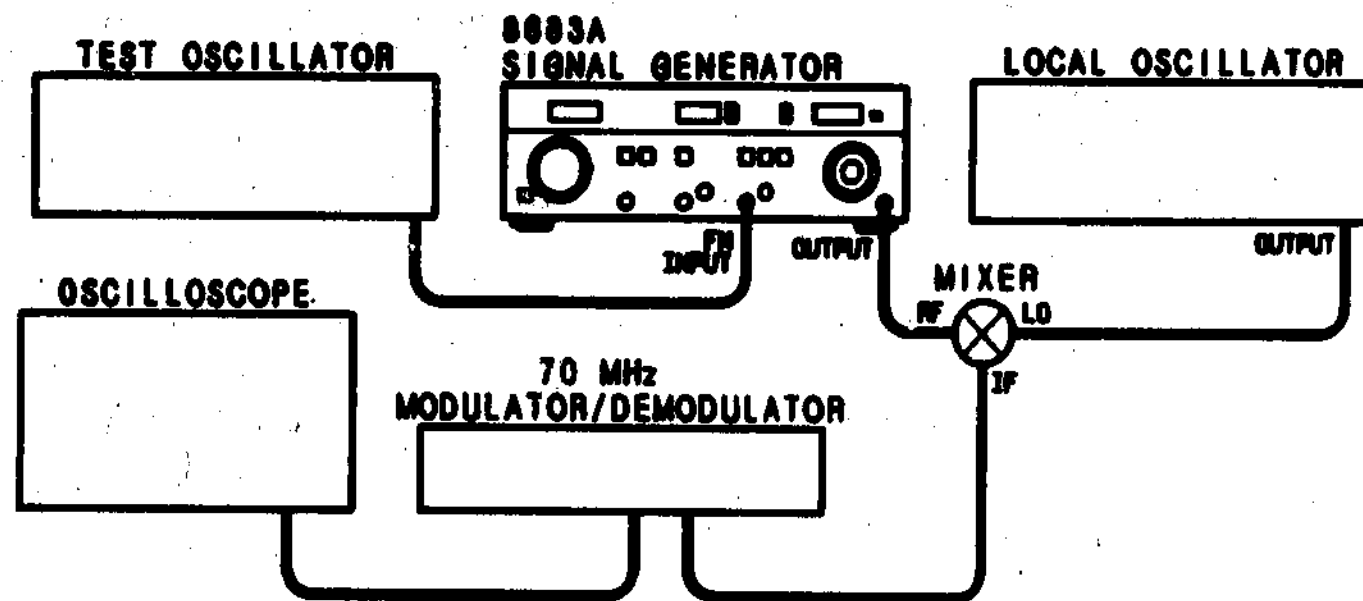

Figure 4-3. FM Rate Test Setup
1. Connect equipment as shown in Figure 4-3, and set Signal Generator under test to 4 GHz with an output level of 0 dBm or higher. Set generator used as a local oscillator to 4.070 GHz with the highest power available.